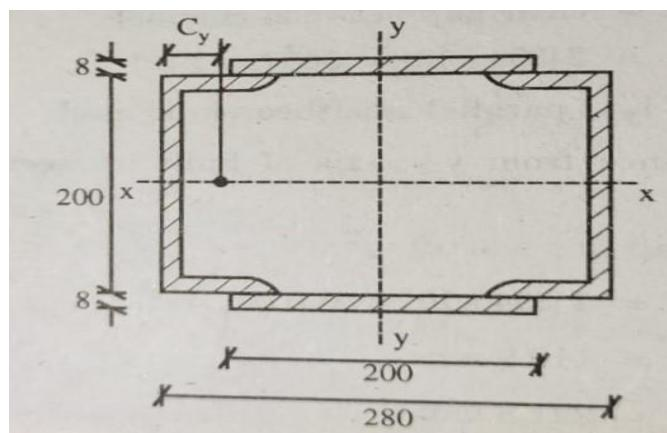

Figure 9
b) A built up column consists of two channels with two plates each 8 mm thick connected symmetrically as shown in the figure 9. The actual length of the column is 7 m and it is fixed at one end and hinged at the other. Find the safe axial compressive load taking the factor of safety as 2. Use Rankine's formula. The properties of the individual channel section are as under: